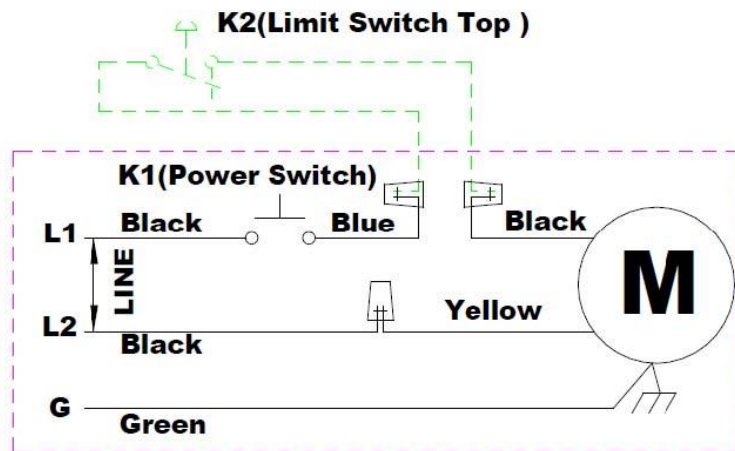

Fig. 20
2. Have a certified electrician make the electrical connection for the K2 overhead limit switch to power unit's switch box, as shown in (Fig. 20).